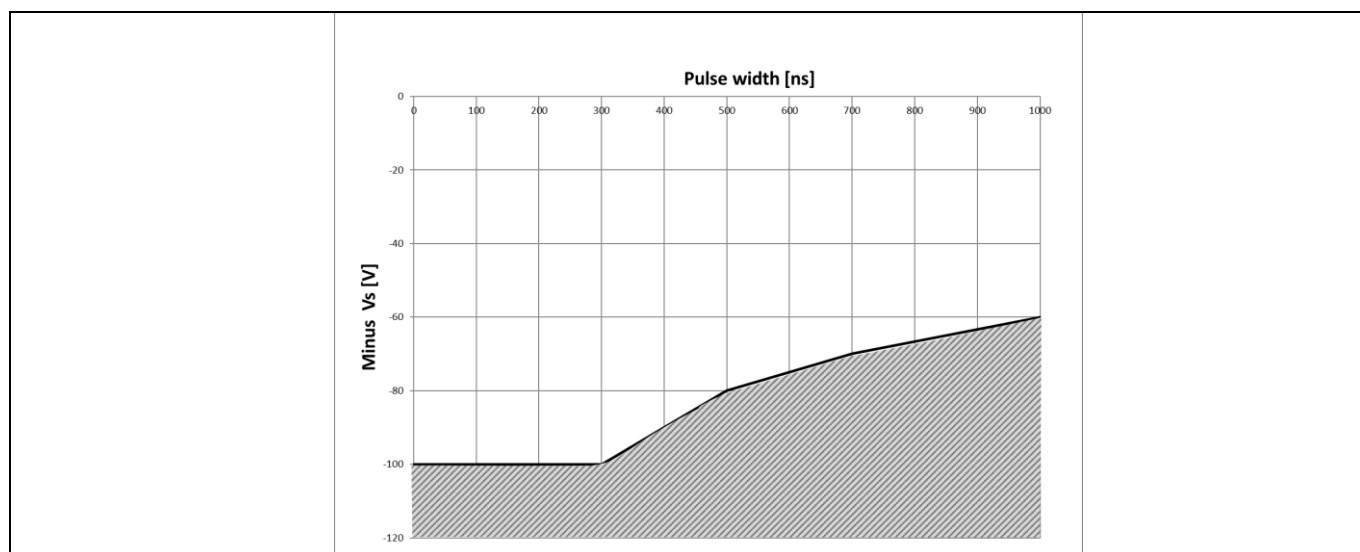

Figure 18 Negative VS transient SOA for 2ED2106 (4) S06F (J) @ $V_{BS} = 15\text{ V}$
Infineon's HVICs have been designed for the robustness required in many of today's demanding applications. An indication of the 2ED2106 (4) S06F (J)'s robustness can be seen in Figure 18, where the 2ED2106 (4) S06F (J)'s Safe Operating Area is shown at $V_{BS}=15$ V based on repetitive negative V_S spikes. A negative V_S transient voltage falling in the grey area (outside SOA) may lead to IC permanent damage; viceversa unwanted functional anomalies or permanent damage to the IC do not appear if negative V_S transients fall inside the SOA.